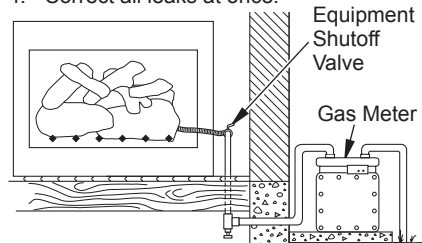

Figure 5 - Checking Gas Joints
1. Close equipment shutoff valve (see Figure 5).
3. Check all joints from gas meter to equipment shutoff valve (see Figure 5). Apply mixture of liquid soap and water to gas joints. Bubbles forming show a leak.